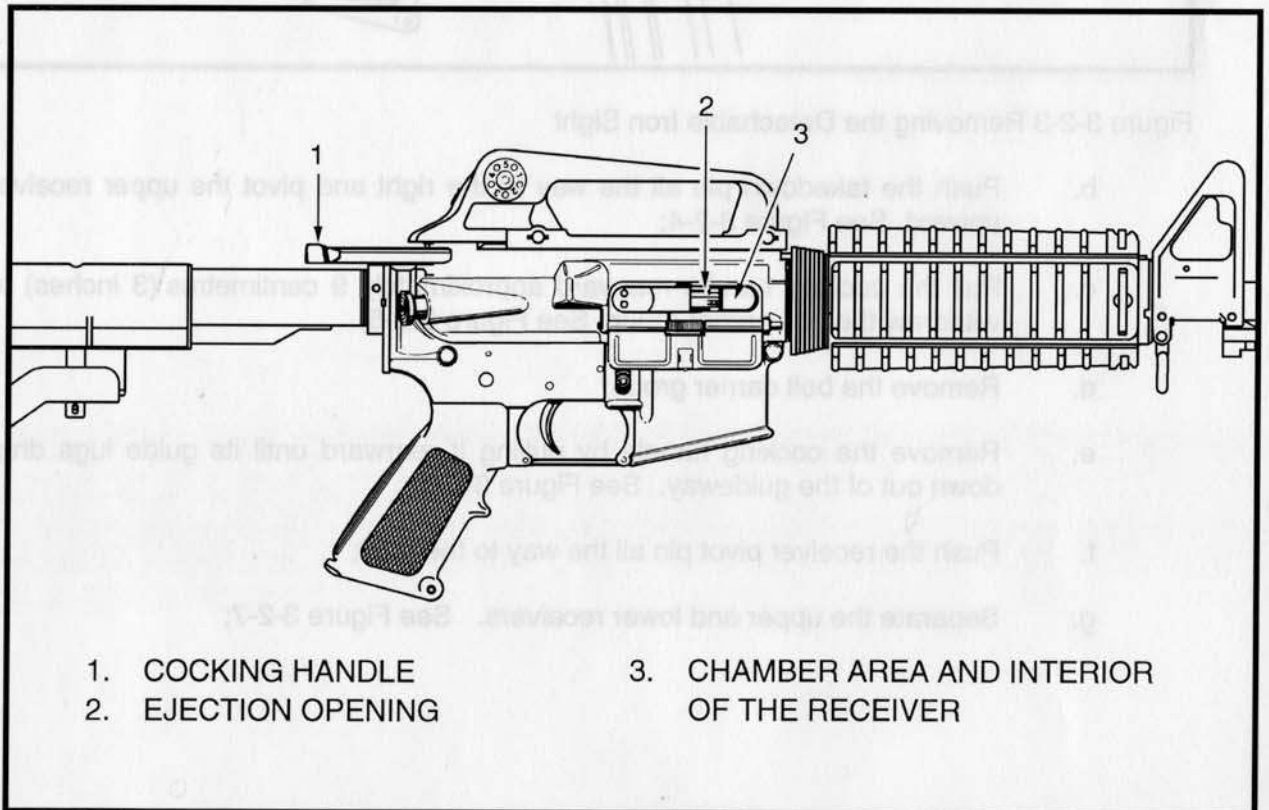

Figure 3-2-2 Proving the Weapon
- b. See Figure 3-2-2. Pull the cocking handle (1) rearward and look into the ejection opening (2), ensure that the chamber area and interior of the receiver (3) are clear;